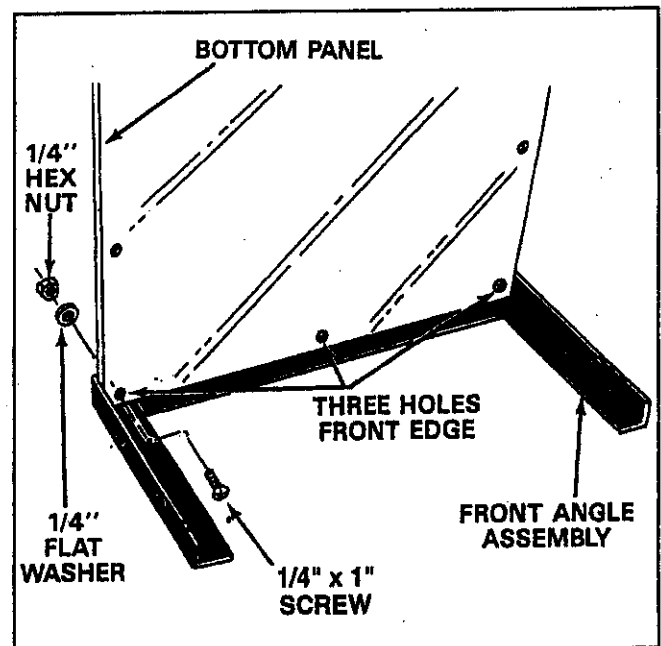

FIGURE 2
1. Lay the front angle assembly down (flat) on floor and stand the bottom panel in position as shown in figure 2.
The bottom panel has one galvanized edge; this is the rear. The front edge has three holes. See figure 2.
2. Line up three holes in bottom panel with holes in front angle assembly. Start three 1/4" x 1" screws through bottom panel, then through angle. Secure screws with 1/4" flat washers and hex nuts. Tighten securely. See figure 2.